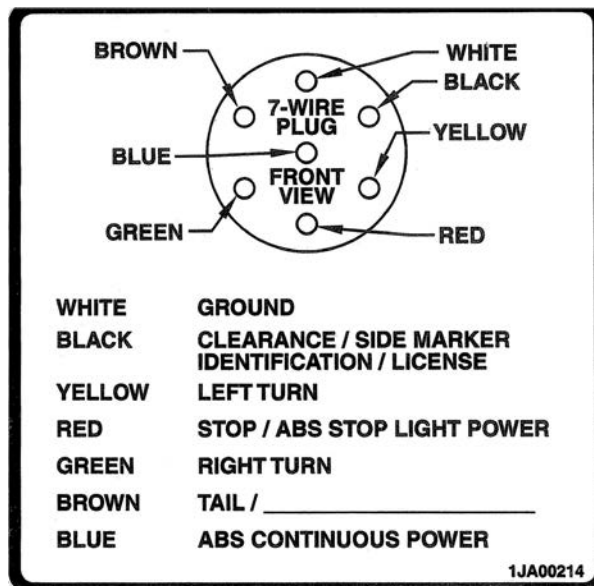

Figure 47 – Wiring Schematic Color Code
All of our semi-trailers are equipped with an electrical system comprised of six (6) circuits and one ground wire. Hence a 7-pin nose plug is used to connect electrical power from the tractor. The 7 wires in the main wire harness are color coded as shown in Figure 47.